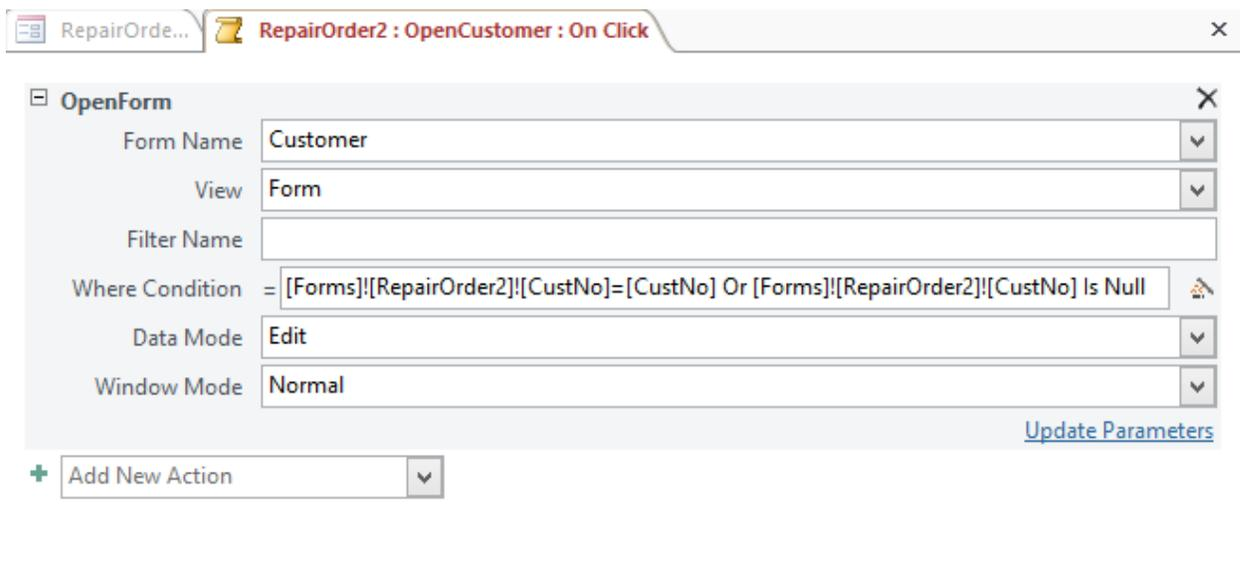

Figure 36: Expanded Event Macro for the Click Event
- Close Tab: When you are finished with the revisions, the revised macro should appear as shown in Figure 36. Close the tab and save the changes when prompted.